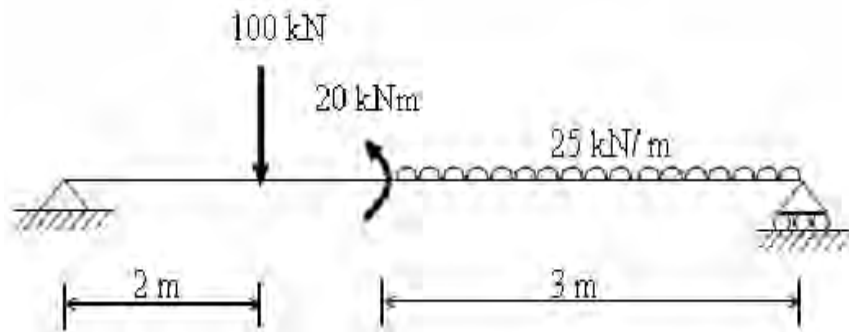

Figure 6
6. Draw the shear force and bending moment diagrams for a beam supported of span 6 m loaded as shown in figure 6. Also find and show the magnitude of maximum bending moment. [15]